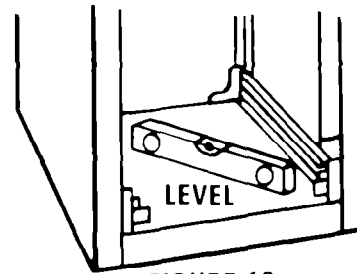

FIGURE 13
5. After the opening has been prepared, level the compactor by adjusting the four leveling screws. Level unit left to right and front to back. See Figure 13.